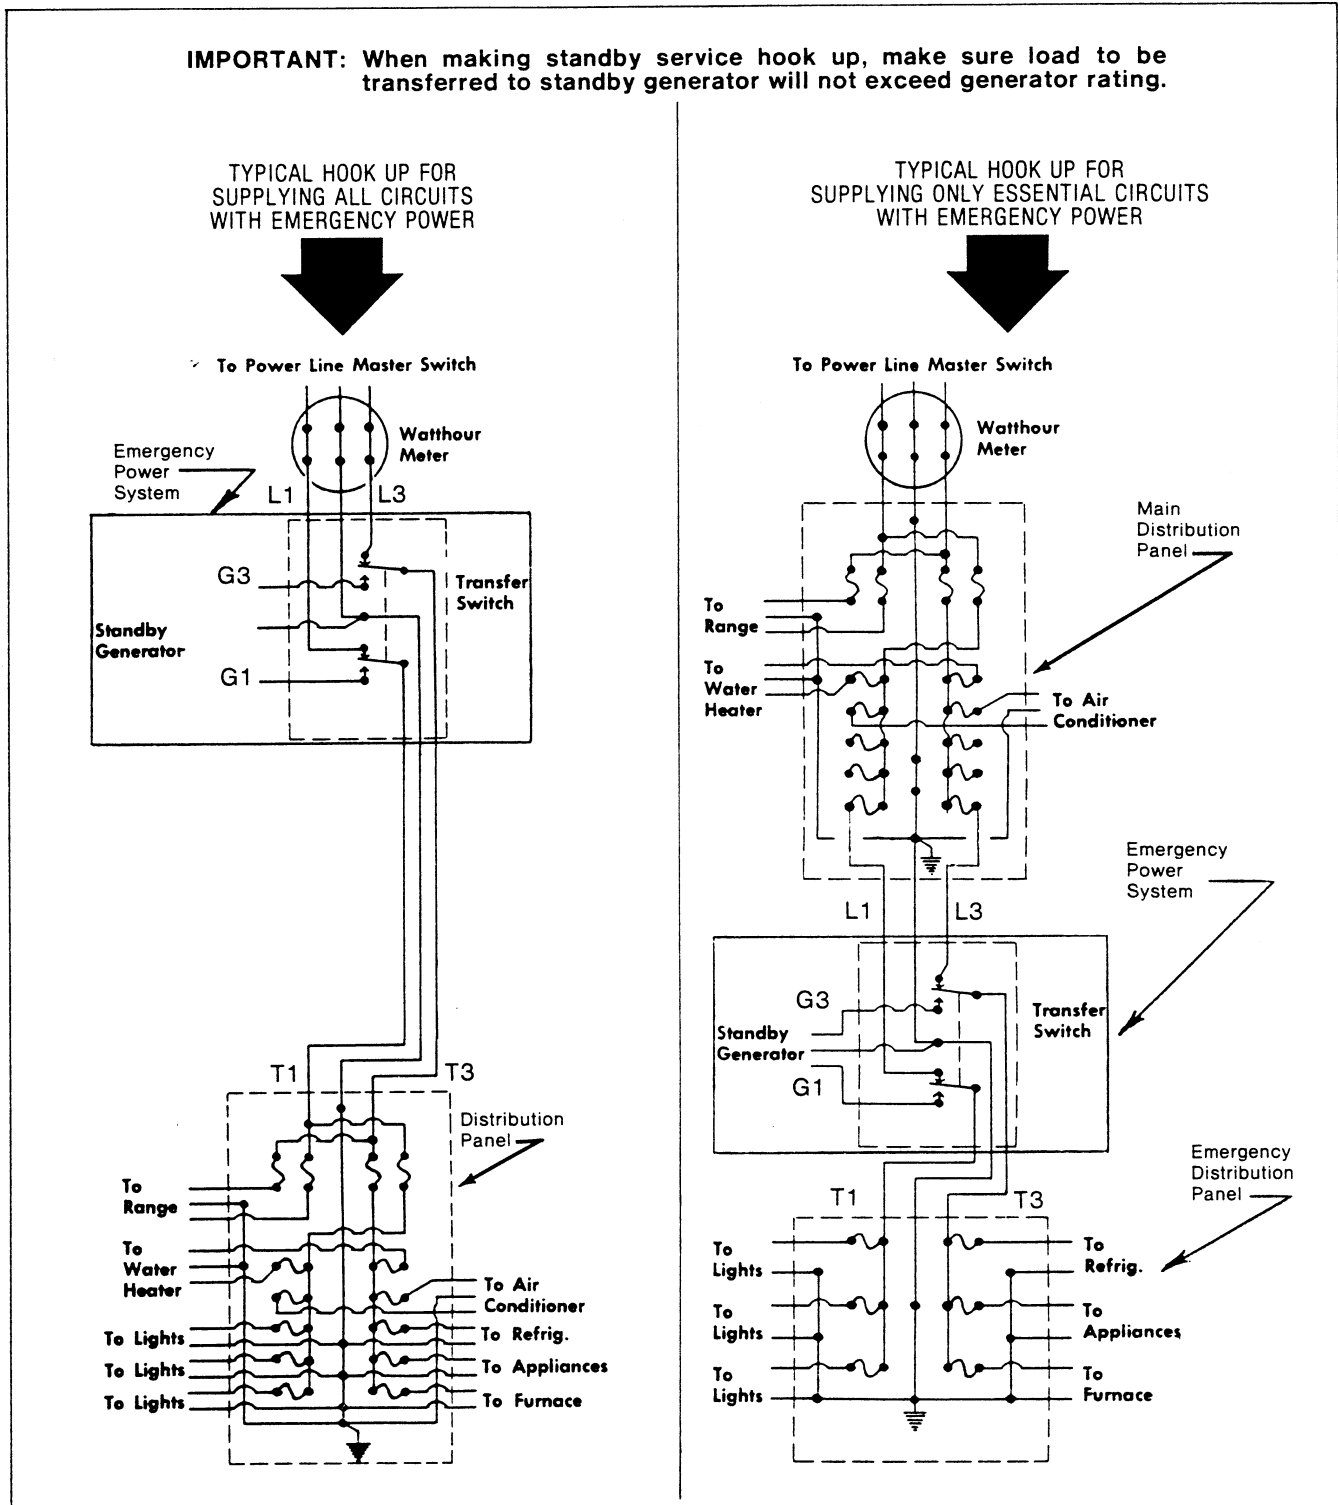

Figure 5
**THE GENERATOR IS ON STANDBY, AND MUST ISOLATE THE COMMERCIAL POWER LINES FROM THE LOAD AND THE GENERATOR WHEN THE GENERATOR IS SUPPLYING POWER. SEE FIGURE 5.**